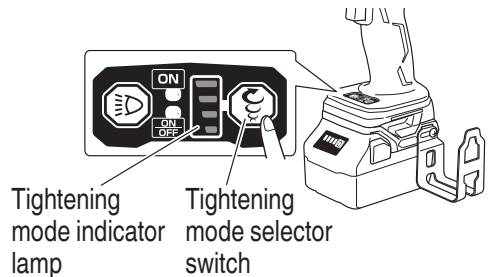

Fig. 16
7. Tightening mode selector function (**Fig. 16**)